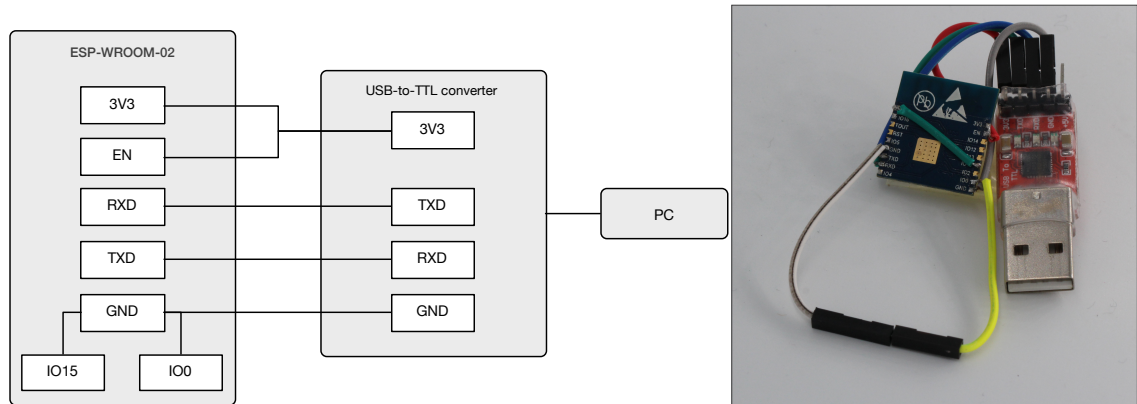

Figure 2-1. ESP-WROOM-02 Download Mode
2. Connect ESP-WROOM-02 to the USB-to-TTL converter, using Dupont lines, as shown in Figure 2-1.